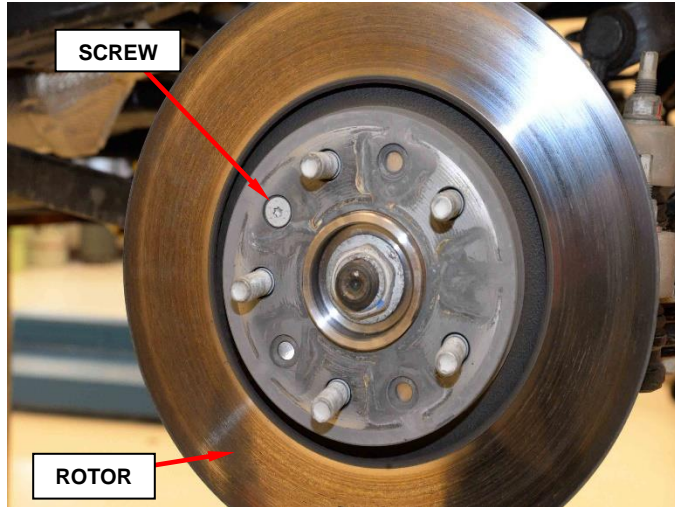

Figure 7 - Rotor
- 10. Remove the front rotor screws (Figure 7).
- 11. Remove both front brake rotors (Figure 7).
30. Position the rotor over the wheel studs and against the hub (Figure 7).
31. Install the front rotor screw and tighten to 20N·m (15ft. lbs.) (177 in. lbs.) (Figure 7).